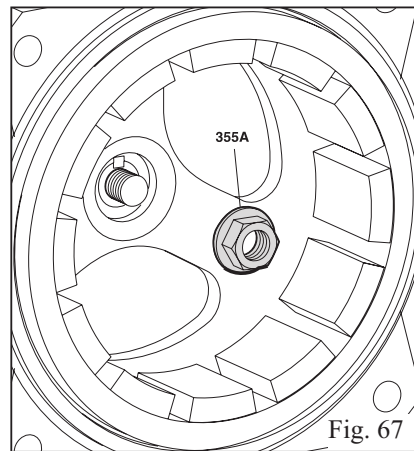

Fig. 67
15. Place shaft wrench on drive shaft (122B) and remove the hex nut (355A) (Fig. 67).